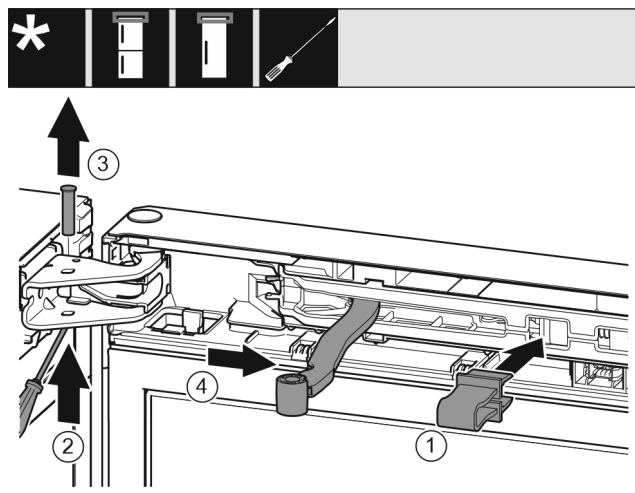

Fig. 11
- Latch safeguard Fig. 11 (1) into opening.
- Slide out the bolt Fig. 11 (2).
- Remove the bolt Fig. 11 (3) upwards.
- Turn the joint Fig. 11 (4) towards the door.